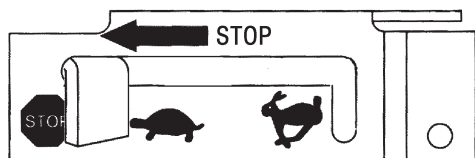

Figure 27. Throttle Lever (Stop Position)
2. After the engine **cools**, move the throttle lever to the **STOP** position (Figure 27).